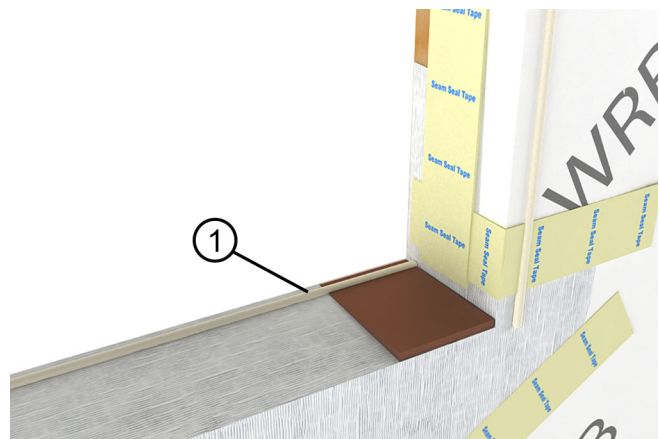

Figure 8
3. Place a bead of sealant 1/4"- 3/8" from interior edge of the RO sill. See Figure 8.